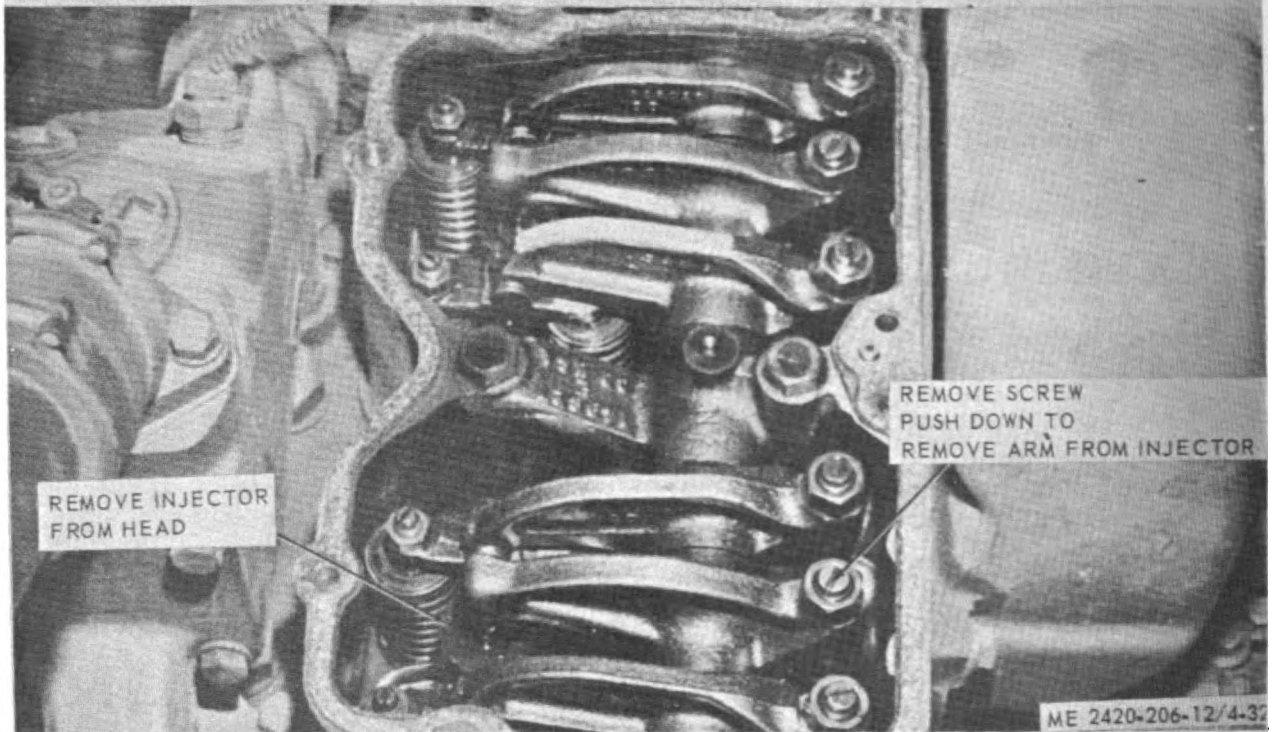

Figure 4-32. Fuel injector, removal and installation.
a. Removal (fig. 4-32).
(1) Remove rocker arm cover from rocker arm housing.
(2) Loosen injector lever adjusting screw nut and loosen adjusting screw until the push tube can be disengaged from injector lever. Disengage push
(1) Install fuel injector in reverse order of removal, fig. 4-32.
(2) Refer to paragraph 4-40 and adjust.
(3) Install new rocker arm cover gasket.